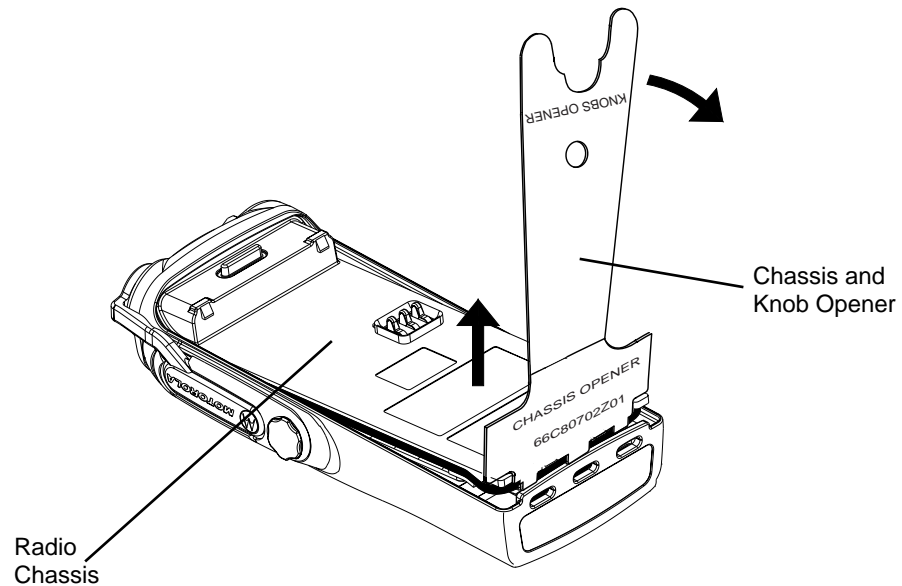

Figure 3-3. Chassis Removal
7. Separate the chassis from the internal electronics front cover assembly by inserting the chassis and knob opener tool in between the thin retaining wall and the chassis at the bottom of the radio as shown in Figure 3-3. Do not mar the housing O-ring sealing area.